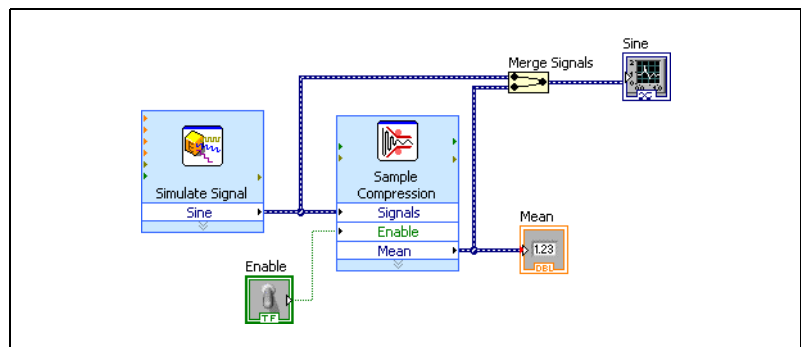

Figure 2-3. Block Diagram of the Reduce Samples VI
- Arrange the objects on the block diagram so they appear similar to Figure 2-3.